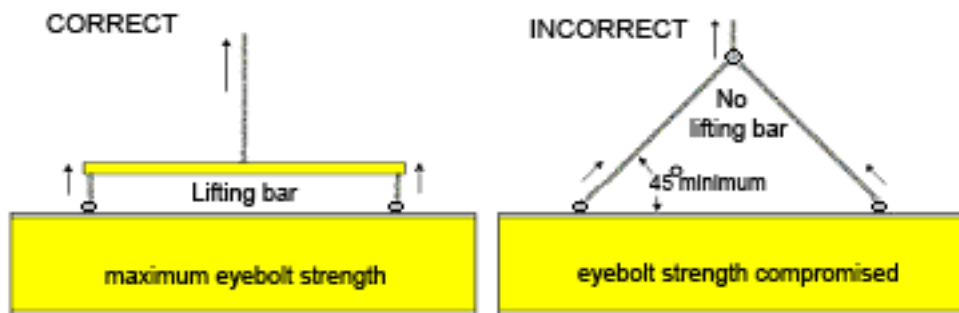

Figure 6: Correct/incorrect Lifting Procedures
1. Lift the display into position on the support structure following the guidelines in **Figure 6**.